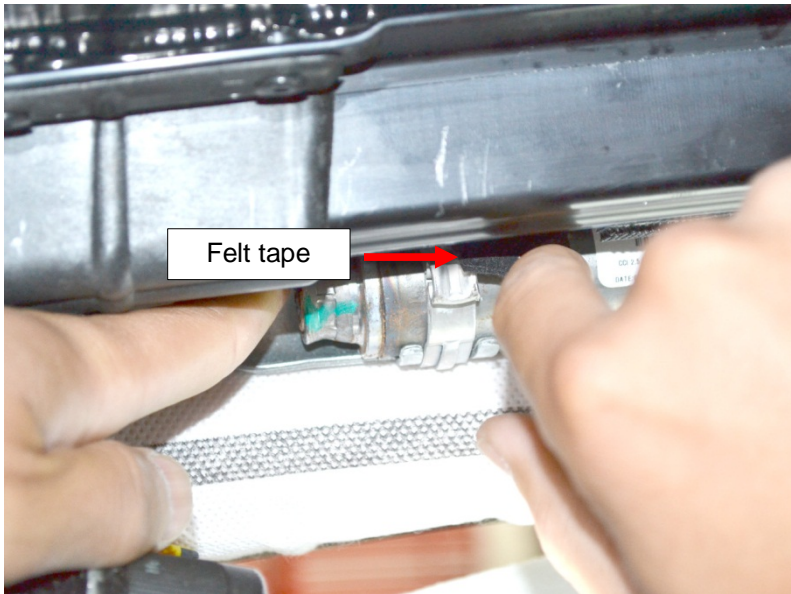

Figure 11
4. Pull down very gently on the curtain airbag canister. Insert a piece of felt tape between the clip on the canister and the panoramic roof track (Figure 11). Ensure that the tape protrudes far enough to cover the round protrusion on the clip (Figure 12).